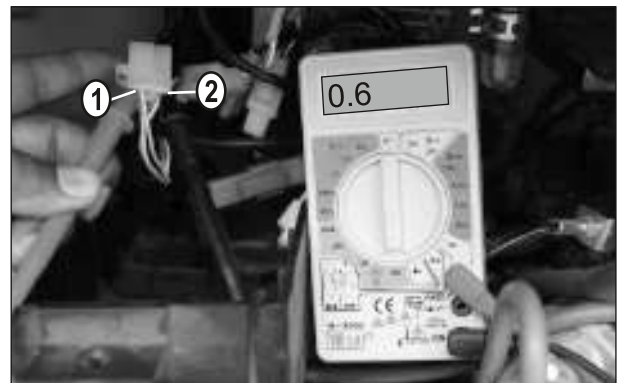

Fig. 6.79
- Connect the '+ve' probe of the multimeter to the Yellow Wire 1 (Y) wire from the magneto assembly and '-ve' probe of the multimeter to the another Yellow Wire 2 in sequenc from the magneto assembly. (Fig. 6.79 & 80)